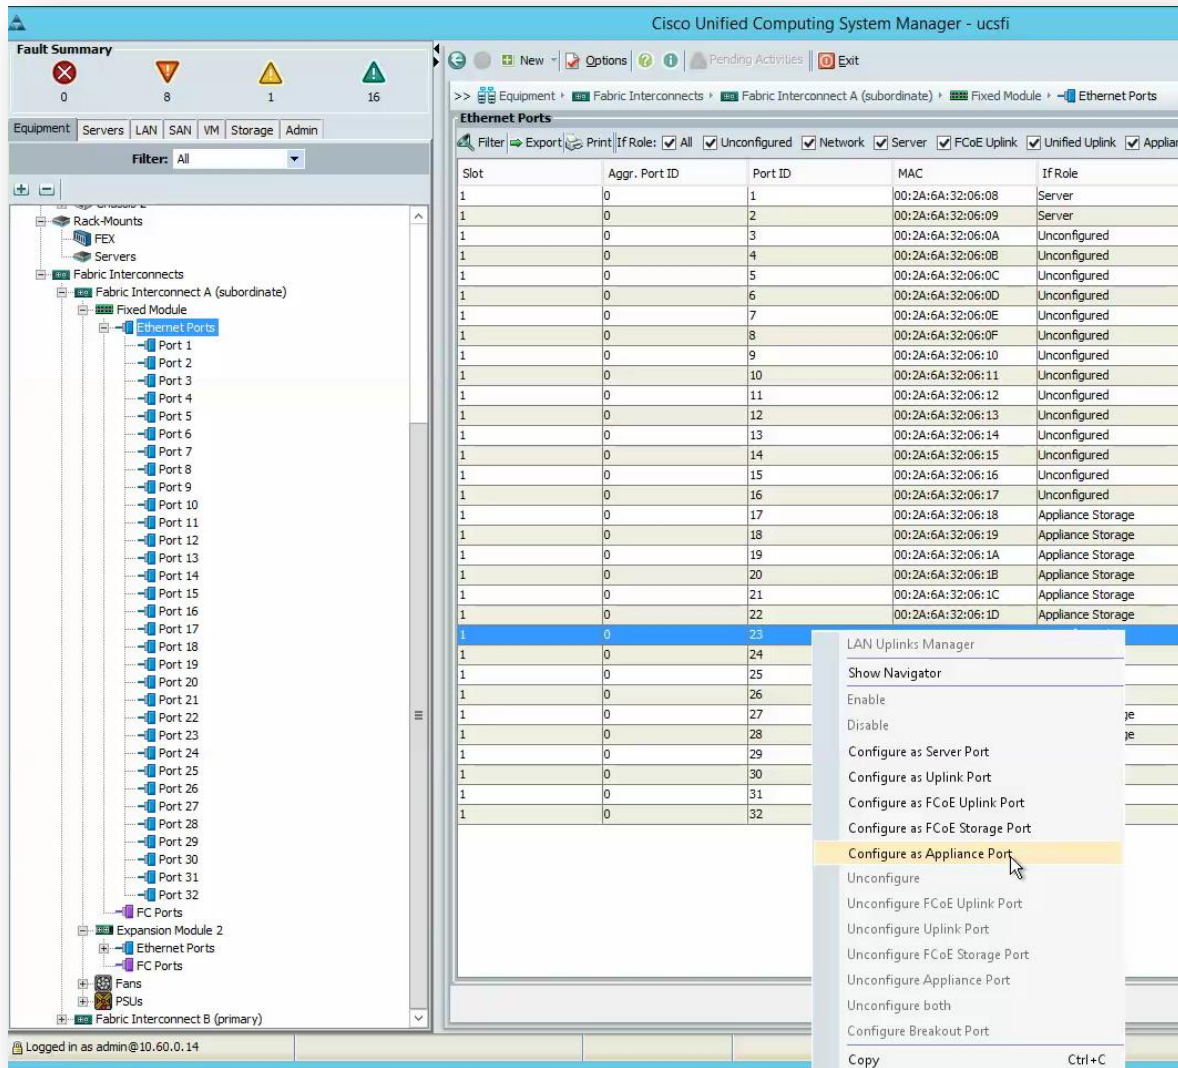

Figure 6 - Configuring an Ethernet Port as an Appliance Port in Cisco UCS Manager
2. In the right hand pane you will see the Ethernet Ports view as shown in Figure 6. Choose two unused Ethernet Ports from the list.